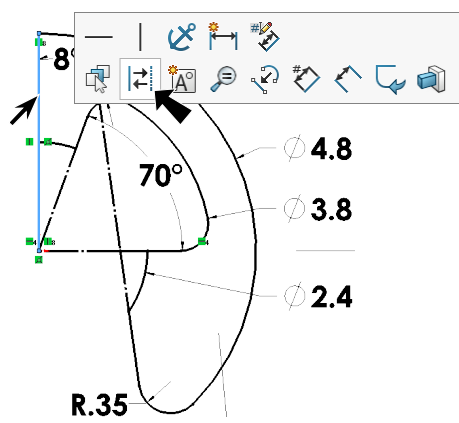

Fig. 15
Step 1. Click **vertical radii** and click **Construction Geometry**  on the context toolbar, **Fig. 15**.